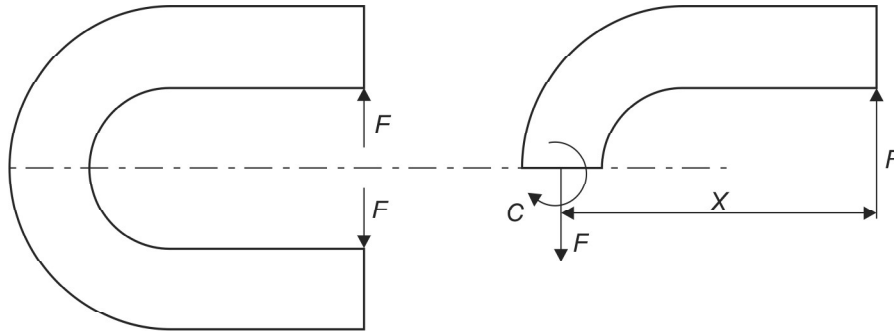

Fig. 1.4: Eccentric load
- On the other hand, if the line of action of force does not pass through the centre of gravity (C_g) of the section, it is referred to as **eccentric load**. To analyze such problems, we replace the eccentric load by an equal and parallel force through C_g of the cross-section together with a couple (C) in opposite direction as shown in **Fig. 1.4**.